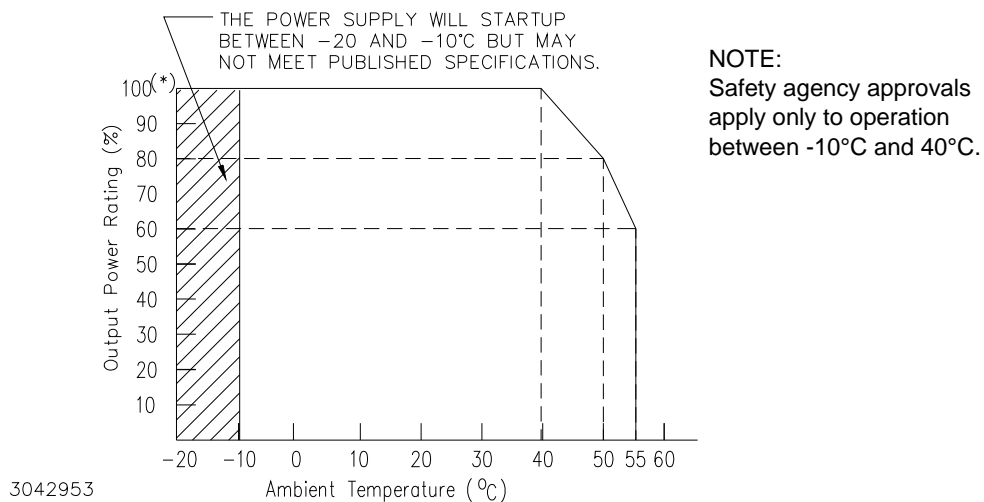

FIGURE 2. POWER RATING VS. TEMPERATURE (INPUT: 95 TO 264V A-C)
- (1) **M Models only:** To adjust output voltage down to approximately 0V use external voltage source or resistance (see PAR. 3.4.2). Refer to Table 4 for minimum conditions required to maintain proper operation of alarm relay, meter and visual LED indicator. **MZ Models only:** If the visual LED indicator is powered from the HSF output (see PAR 3.4.3), refer to Table 5 for minimum conditions required to maintain functionality of the indicator.
- (2) Output specifications may not be met if voltage adjusted below values shown for M models.
- (3) For 100V a-c input, maximum output current for 12V model: 50A (600W), for 15V model: 40A (600W).
- (4) See Figure 2 for power derating.
- (5) Square type. Output voltage returns automatically only if cause is removed within 30 seconds (see PAR. 3.7.2).
- (6) When overvoltage is detected, output is shut OFF. Recovery is by removing, and after approximately 40 seconds, reapplying AC input power or by reset (open and close) at ±RC terminals (no delay).
- (7) Ripple and noise levels above are satisfied when conditions are 0 to 100% load, 0 to 40°C (load is derated from 40 to 55°C, see Figure 2), and bandwidth ≤ 100MHz.
- (8) Minimum output voltage required to meet ripple, noise and stabilization (see Table 3) specifications.